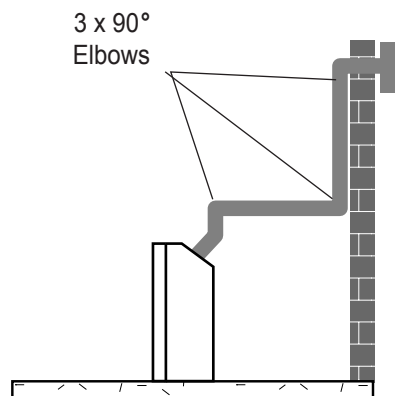

Figure 18 - Maximum Three (3) 90 Elbows Per Installation
- The maximum number of 90° elbows per side wall installation is three (3). *See Figure 18.*